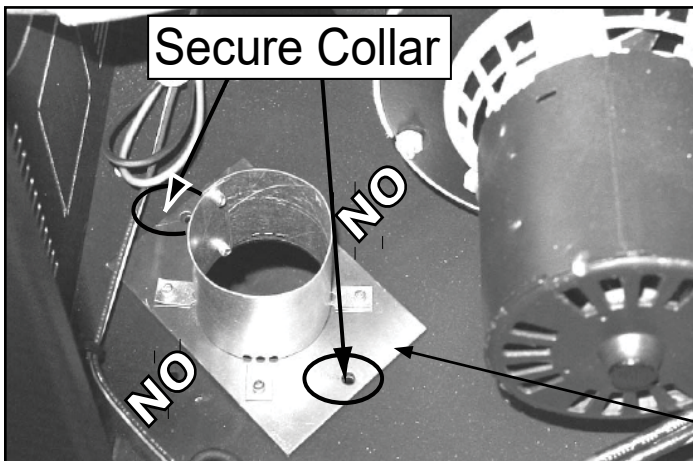

Figure 20.2
- Align and secure collar assembly with 2 of the 4 holes as shown (**Figure 20.2**).